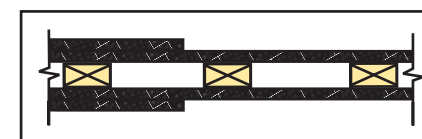

Figure 2.
*Fire Resistance Rated Truss Assemblies* shows an assembly, UL U338 (see Figure 2), that is used in this situation. With one layer of 5/8" gypsum on each side, it has a 1-hour rating. Though a summary description of this assembly can be seen in the document, the building designer should also see a more detailed description on **Support Docs** at [www.sbcmag.info](http://www.sbcmag.info).